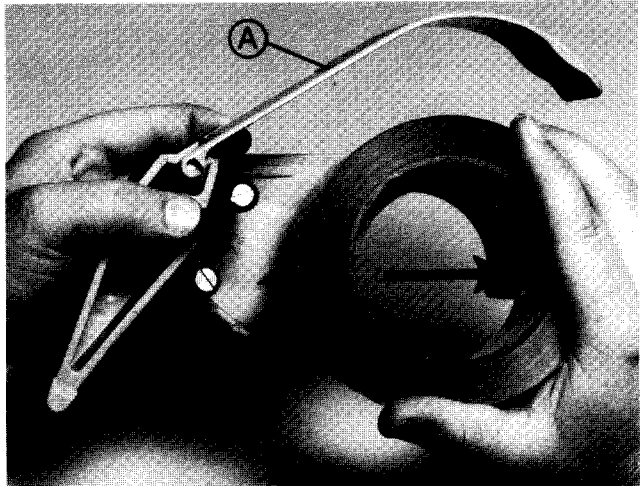

Figure 2
Figure 2 — Lift up on the brake (A), position the tape roll on the H-129 tape hub to dispense tape adhesive side down. Start the tape roll over the outer hub flange as indicated by arrow. Push the tape roll forward onto the hub and press downward to fully mount the tape roll.